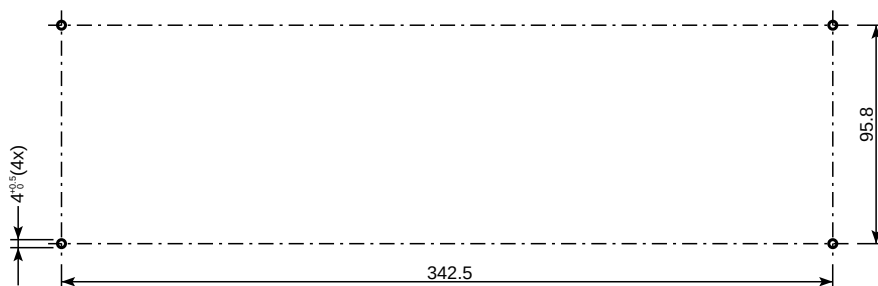

Fig. 6
- On a table. Therefor drill four holes in the table according to Fig. 6 and fasten the CPSU with four M3 screws.